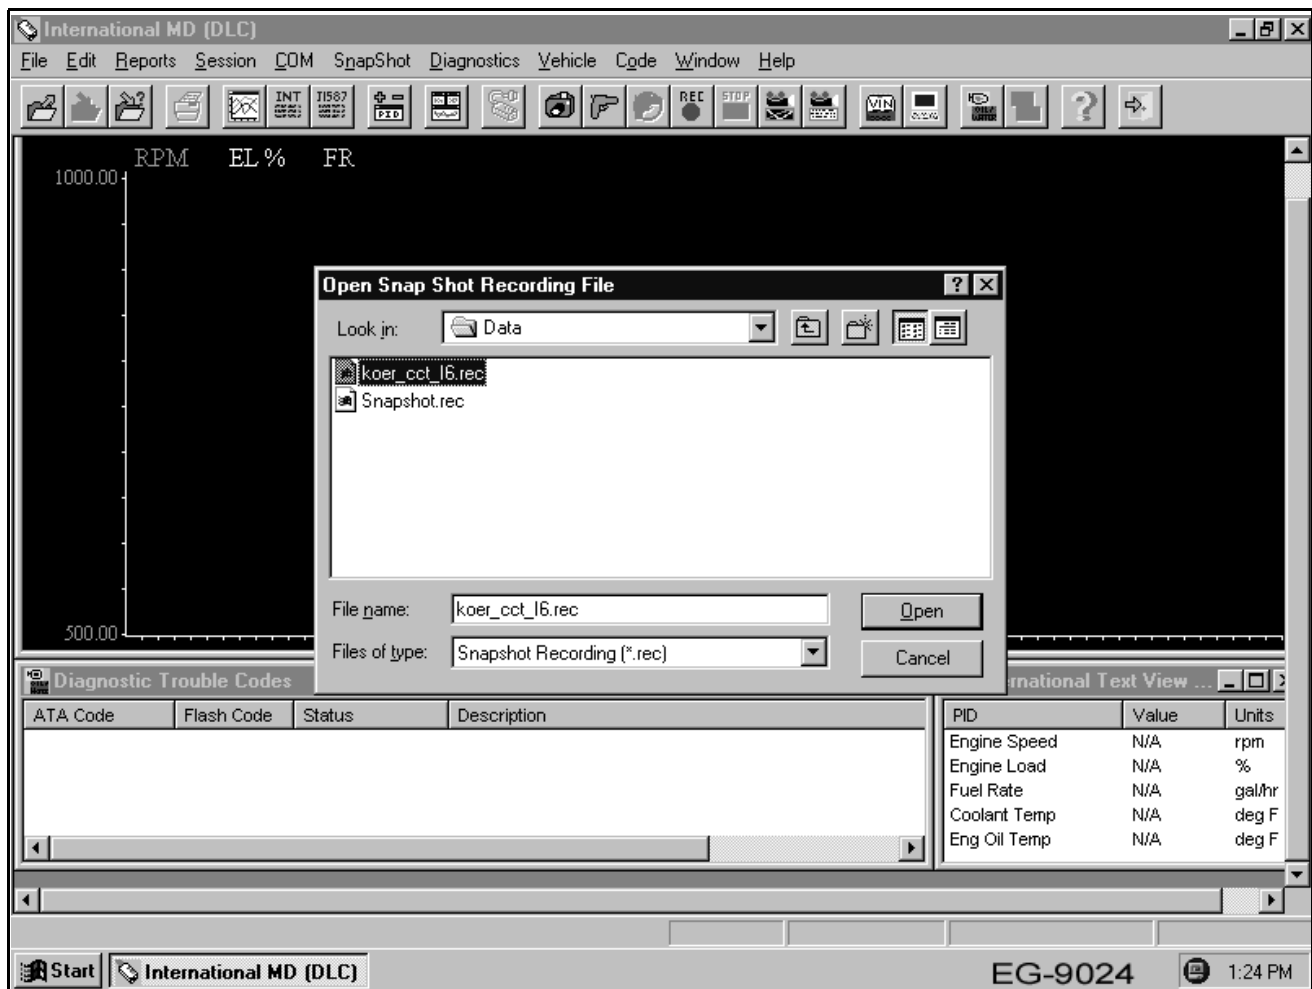

Figure 182 Opening SnapShot Recording
7. Select file **koer_cct_16.rec** from the pop-up window (See Figure 182, page 375).